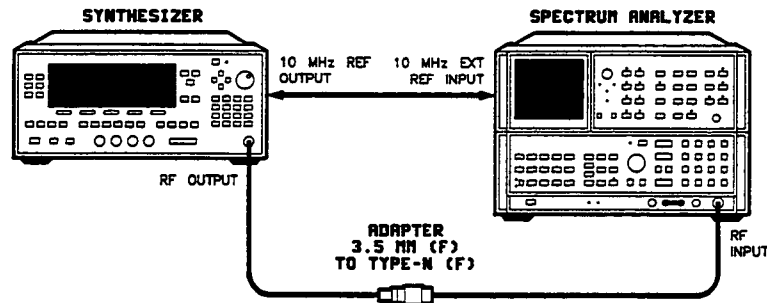

Figure 2-10. Spurious Signals (Non-Harmonic) Test Setup
1. Preset the instruments shown in figure 2-10 and let them warm up for at least one hour.
3. Connect the equipment as shown in figure 2-10.